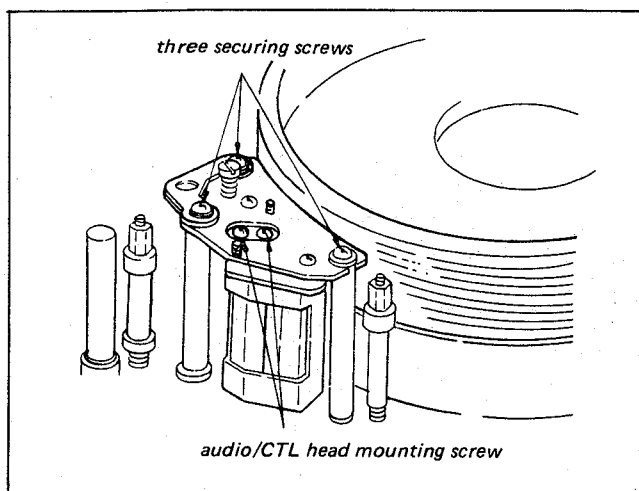

Fig. 3-5. Replacement of Audio/CTL head
1. Remove the three screws from the studs, and remove the Audio/CTL Head Ass'y as shown in Fig. 3-5.
2. Loosen the screws on the head assembly as shown in Fig. 3-5 and remove the Audio/CTL Head from the head assembly.